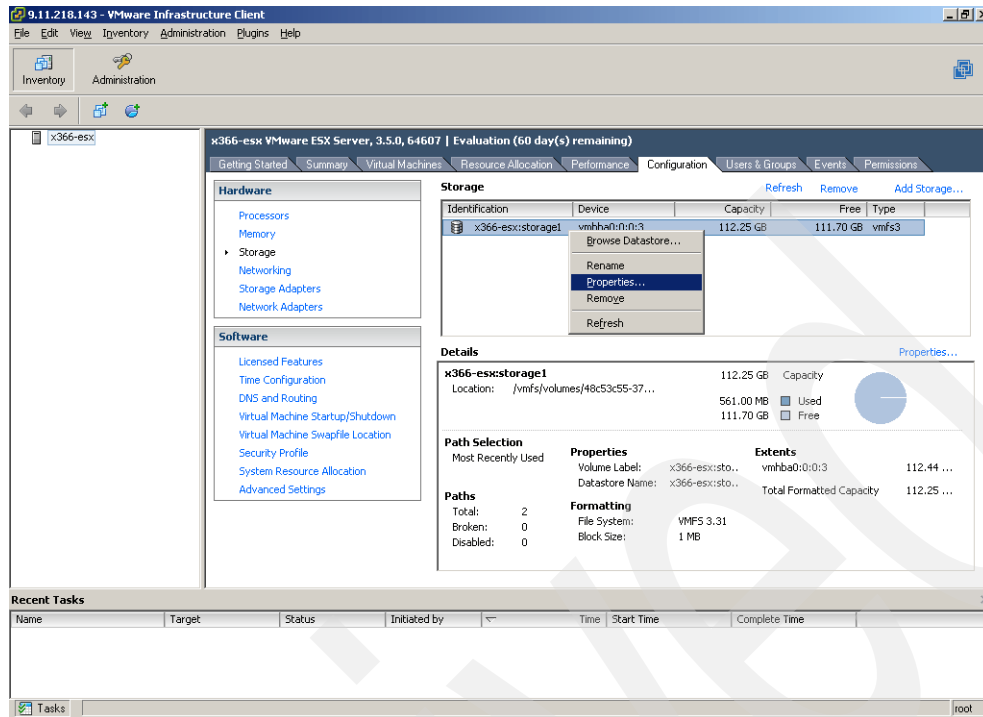

Figure 28-9 ESX Server storage properties
4. Right-click the specific storage and choose **Properties** (Figure 28-9 on page 719).